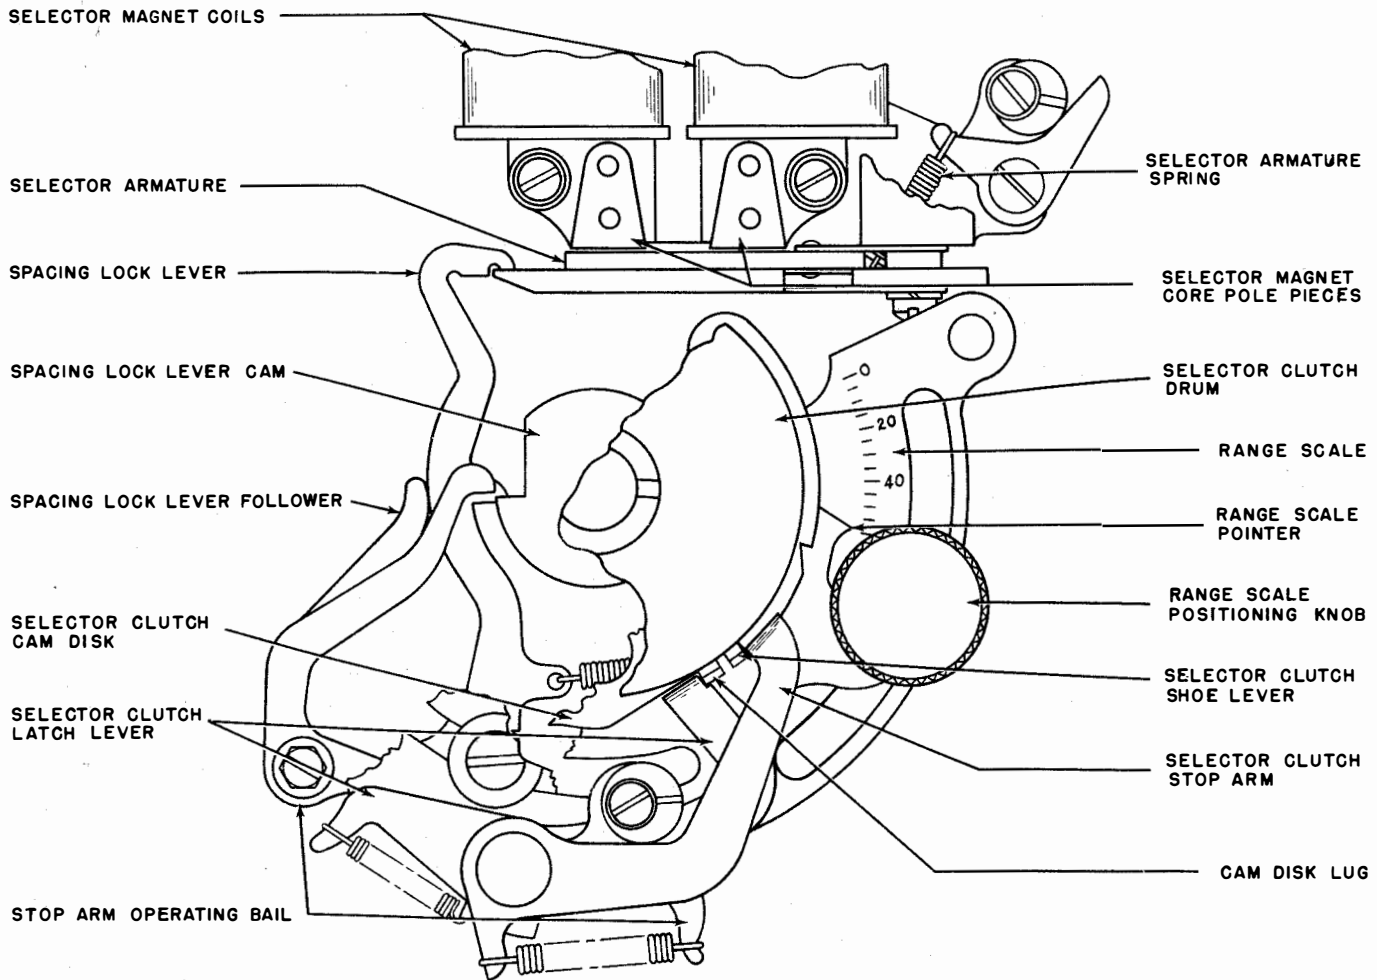

Figure 2-37. Selector Cam Clutch Trip Mechanism
(3) During the time in which a closed line circuit (marking) condition exists, the selector magnet coils are energized and hold the selector armature against the selector magnet core pole pieces. In this stop position, the selector armature blocks the spacing lock lever (figure 2-37). While the signal for any character or function is being received, the start (spacing) element releases the selector armature which, under the tension of its spring, moves away from the magnet cores and thus unlatches the spacing lock lever. As the spacing lock lever turns clockwise under the tension of its spring, it drops into an indent on its flutter-type cam. The spacing lock lever follower and the selector clutch stop arm operating bail also turn clockwise under the tension of their spring as the follower rides the spacing lock lever. The stop arm operating bail moves the selector clutch stop arm out of engagement with the clutch shoe lever. The selector clutch engages and begins to rotate. To prevent the spacing lock lever follower from loading the spacing lock lever during the signalling time, the stop arm operating bail rides a cam. Thus, the spacing lock lever follower rides the spacing lock lever only during the stop time. When the stop element at the end of the signal is received, the spacing lock
(1) In order to establish operating margins for the Automatic Typewriter, it is necessary that the sampling of the signal by the selecting mechanism occur at the most favorable portion of the signal elements. This is referred to as orientation.
(2) When the range scale positioning knob is loosened, the range scale pointer, the spacing lock lever follower, the clutch stop arm with operating bail, and the clutch latch lever, may be moved as a group, either clockwise or counterclockwise about the selector cam-clutch (figure 2-37). This changes the angular position